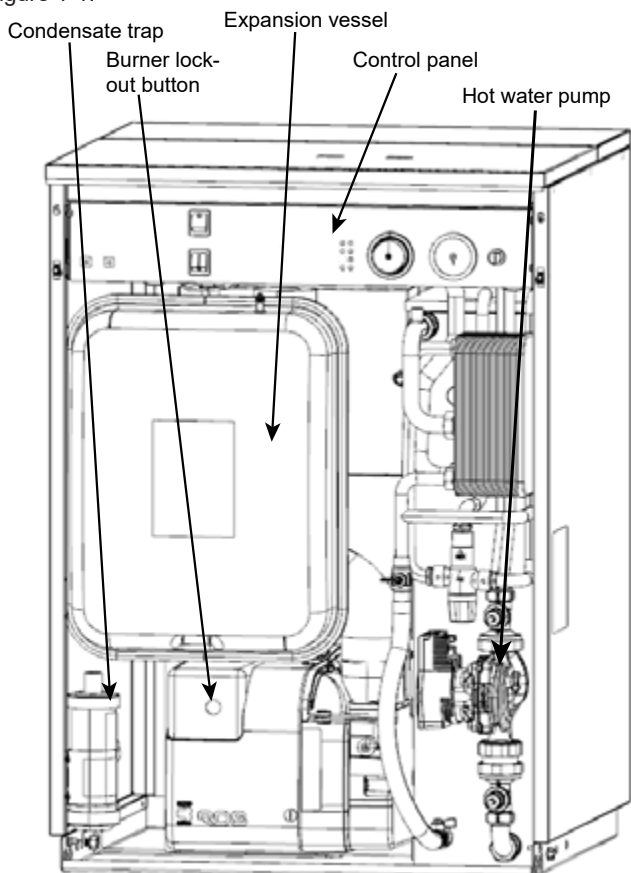
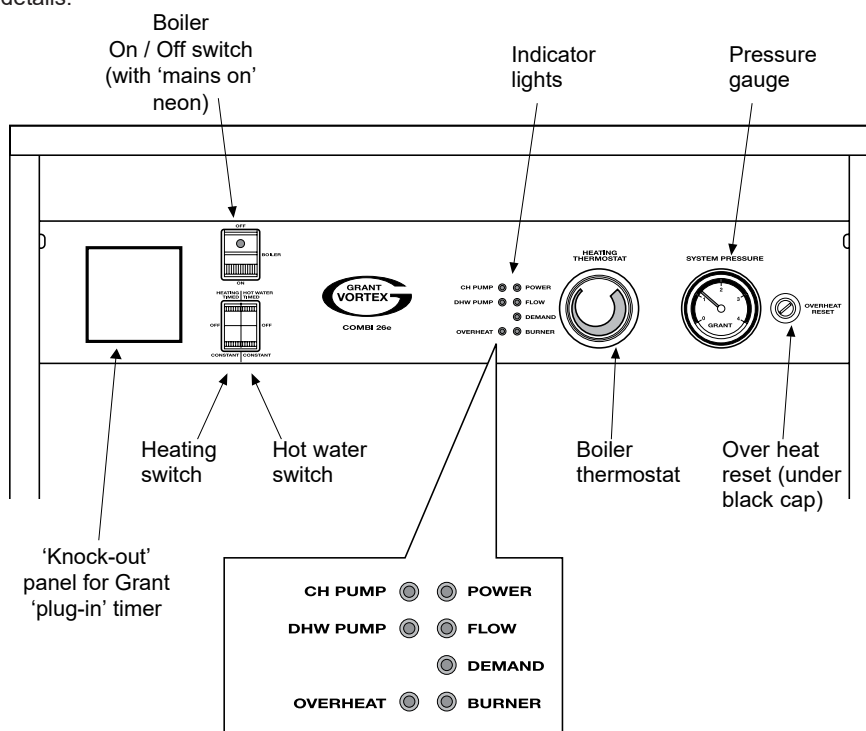

Figure 1-1: Boiler components
Figure 2-1: Vortex combi boiler control panel
To gain access to the boiler controls, pull the front panel forward at the top to disengage the fixing clips, then lift it up and off the boiler, to reveal the boiler components and controls, as shown in Figure 1-1.
5. Check if the burner 'Lock-Out' reset button on the burner body (refer to Figure 1-1 for location) is lit.
Refer to Figure 1-1 for the location of the control panel within the boiler casing and Figure 2-1 for the details of the control panel.
If your boiler goes off and you try to light it but nothing happens and the 'Lock-Out' reset button on the burner is not lit, the overheat thermostat has probably operated. The OVERHEAT indicator LED on the control panel will also be flashing if the overheat thermostat has tripped (see Figure 2-1).
To reset the overheat thermostat, unscrew the small plastic cap marked "reset" (see Figure 2-1), press the button and replace the cap.
These 7 red lights, located on the boiler control panel, indicate the operating situation of the boiler. Refer to Figure 2-1 for the position of these lights on the boiler control panel.
A 'plug-in' mechanical timer is available to purchase from Grant UK (part code: MTKIT), which fits into a suitably sized 'knockout' panel in the boiler control panel (see Figure 2-1).